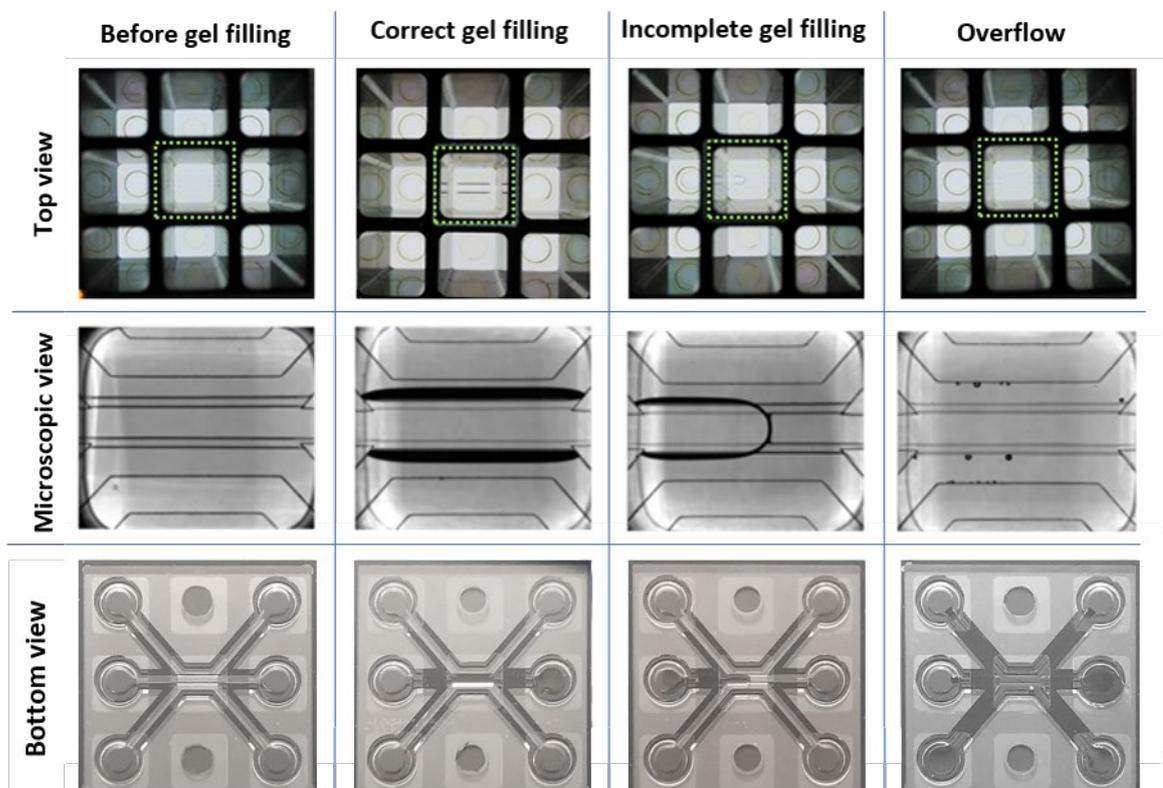

Figure 5: Overview of correct gel filling, incomplete gel filling, and overflow in the OrganoPlate® 3-lane.
- f. For examples of correct gel filling in the OrganoPlate® 3-lane, see figure 5.